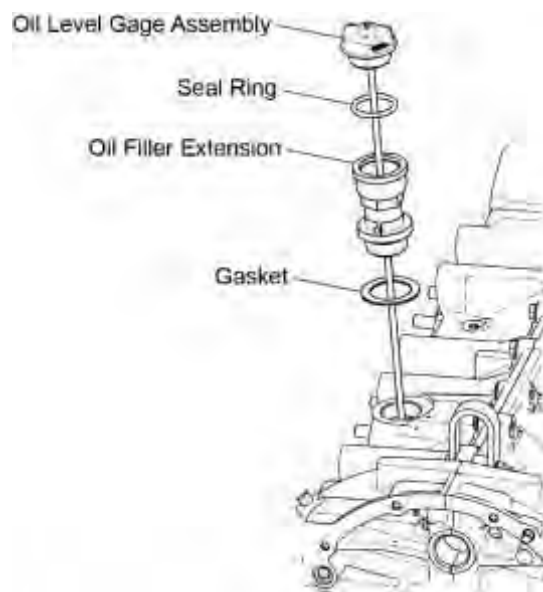

Figure 1
- (1) Pull out the oil level gage assembly (dipstick) from the oil filler extension (Figure 1).
- (2) Wipe all oil from the dipstick end with a clean, lint-free cloth. Do not let any lint or dirt remain on the dipstick or get in the oil filler extension.
- (3) Insert the dipstick fully back into the oil filler extension, threaded all the way down to the oil sump and then remove the dipstick.
- (4) Look at the oil level indication on the dipstick end.
- (5) If the oil level is not sufficient, add the correct oil through the oil filler extension. Refer to the section "Add Oil to the Engine" in this chapter.
- (1) Pull out the oil level gage assembly (dipstick) (Figure 1) from the oil level gage tube.
- (2) Add either new clean ashless dispersant oil or specified oil of the correct viscosity for the ambient temperature (identified in Appendix A in the **TEO-540-C1A Engine Installation and Operation Manual**) to the oil sump through the oil level gage tube.
- (3) Measure the oil level per the “Oil Level Check” procedure in this chapter. Add more oil if necessary until the oil level in the engine is sufficient.
- (4) In the engine logbook, record the amount of oil added to calculate oil consumption.
- (5) Install the oil level gage assembly (dipstick) into the oil filler extension.